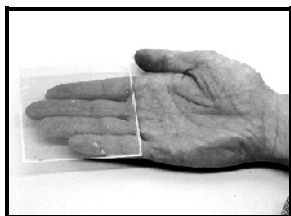
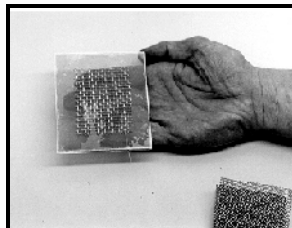
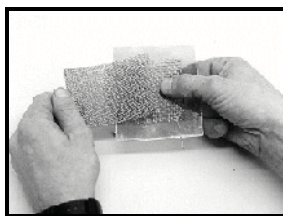

Figure 10
Figure 11
Figure 12
6. Once plates are inspected and dried, they may be reassembled. Place one mica sheet flat in the palm of your hand (**SEE FIG. 10**), then set the inner screen in the exact center of mica sheet. Then place the other sheet of mica on top forming a sandwich (**SEE FIG. 11**). With thumb and index finger grasp mica sandwich approx. half way (**be careful inner screen remains centered at all times**) and gently slide assembly back into outer screen. ( see figure 12)